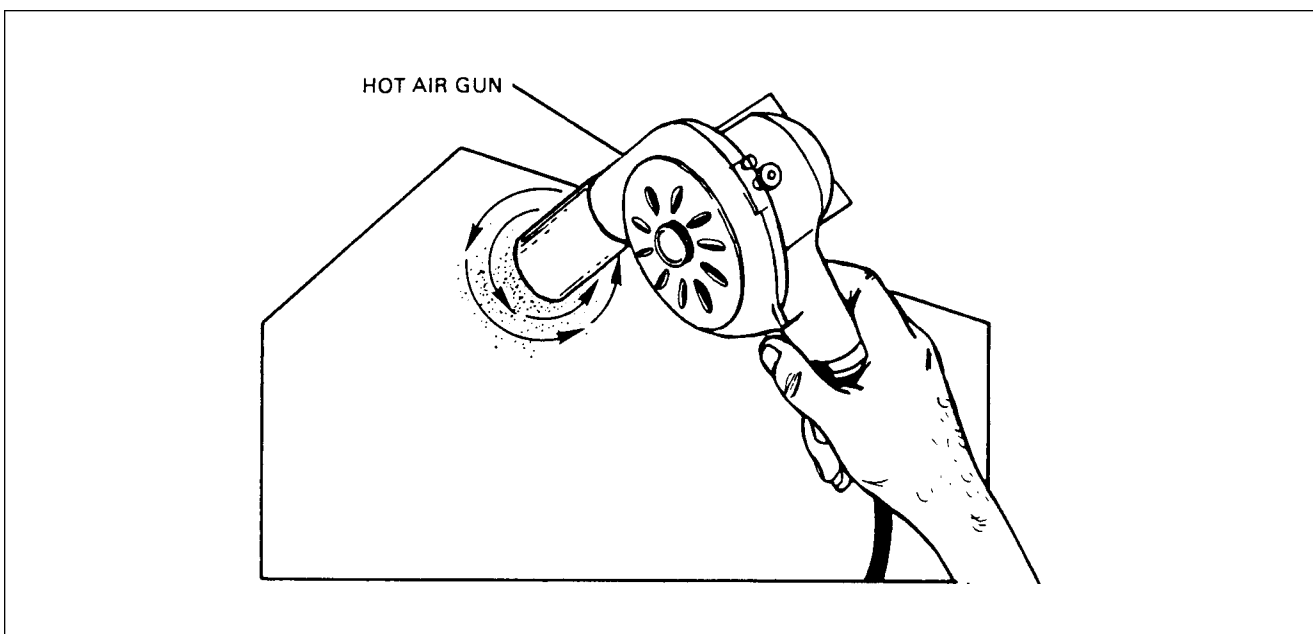

Figure 51-2. Surface Scratches, Abrasions or Ground-in-Dirt
2. Surface scratches, abrasion or ground-in-dirt: (figure 51-2)